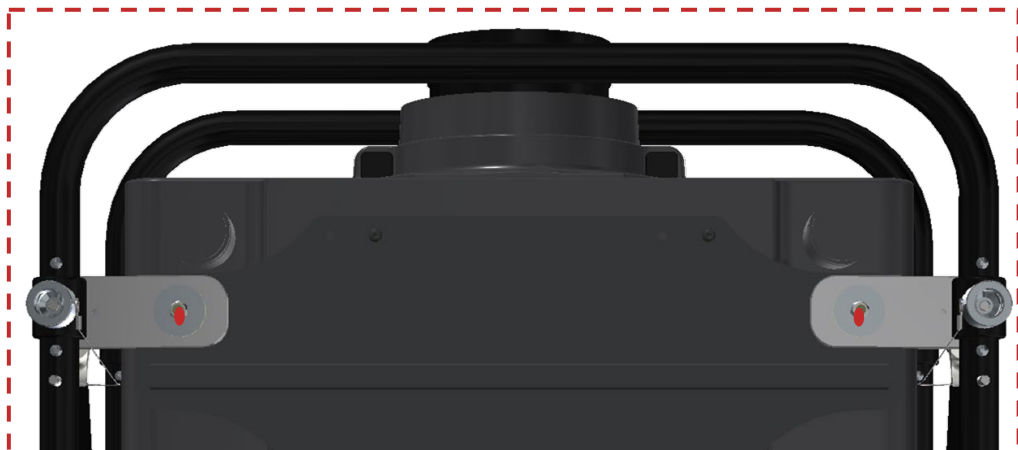
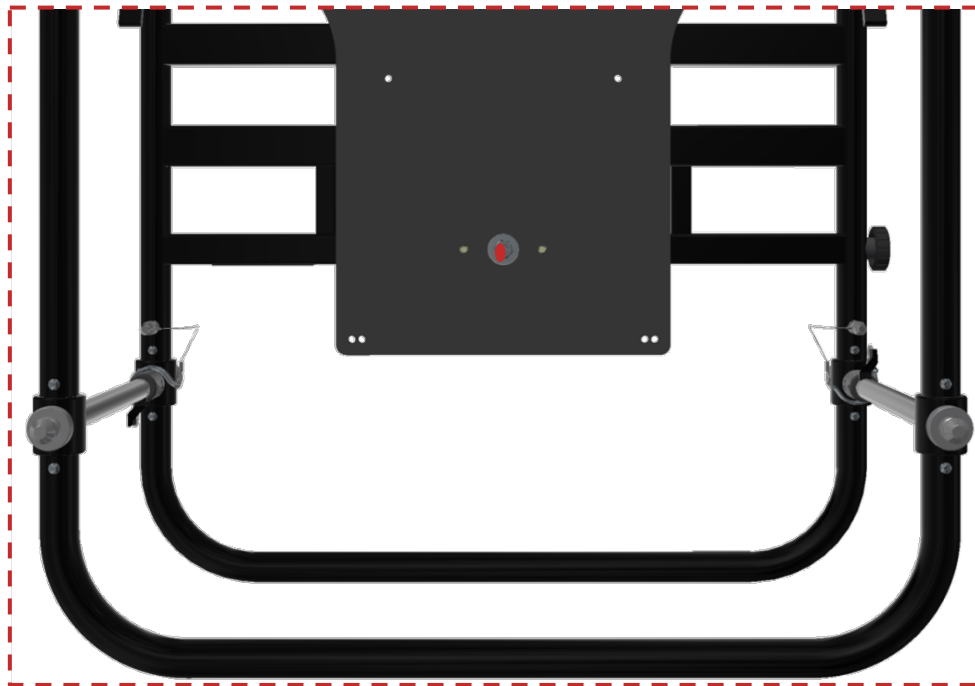

Figure 26 Nuts on front bottom side which are sealed with red colour wax
Figure 27 Nut on centre top side which is sealed with red colour wax
- On the three screws + nuts presented on the above two pictures (Figure 26 and Figure 27) red color sealing wax was applied to be sure that the nuts will always be on the same position and no one will try to tighten or loose them.
Except for the three nuts described on the previous section (see Figure 26 and Figure 27), please control, with corresponding tool, that all the other screws are properly tightened.